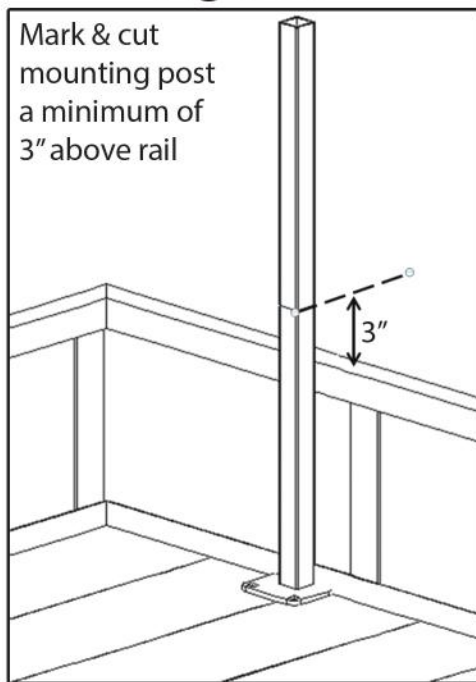

Figure 2
2. Drill 3/8 holes as needed (make sure the post is straight) and install bolts. (Figure 2)